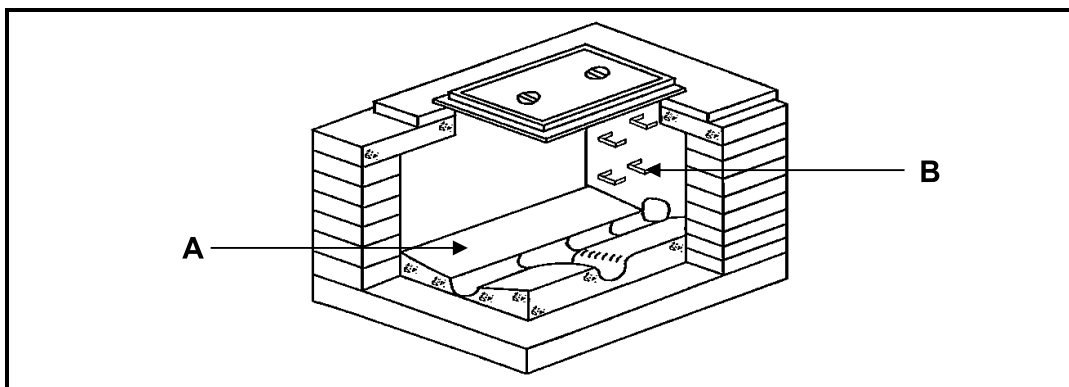

FIGURE 3.7
- 3.7 Answer the following questions with regard to the structure in FIGURE 3.7.